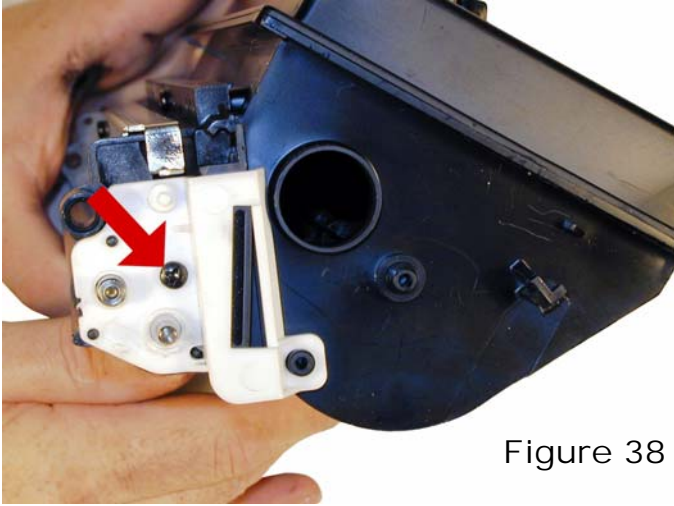

Figure 38
34) Remove the screw and the white plastic alignment plate. **Figure 38**